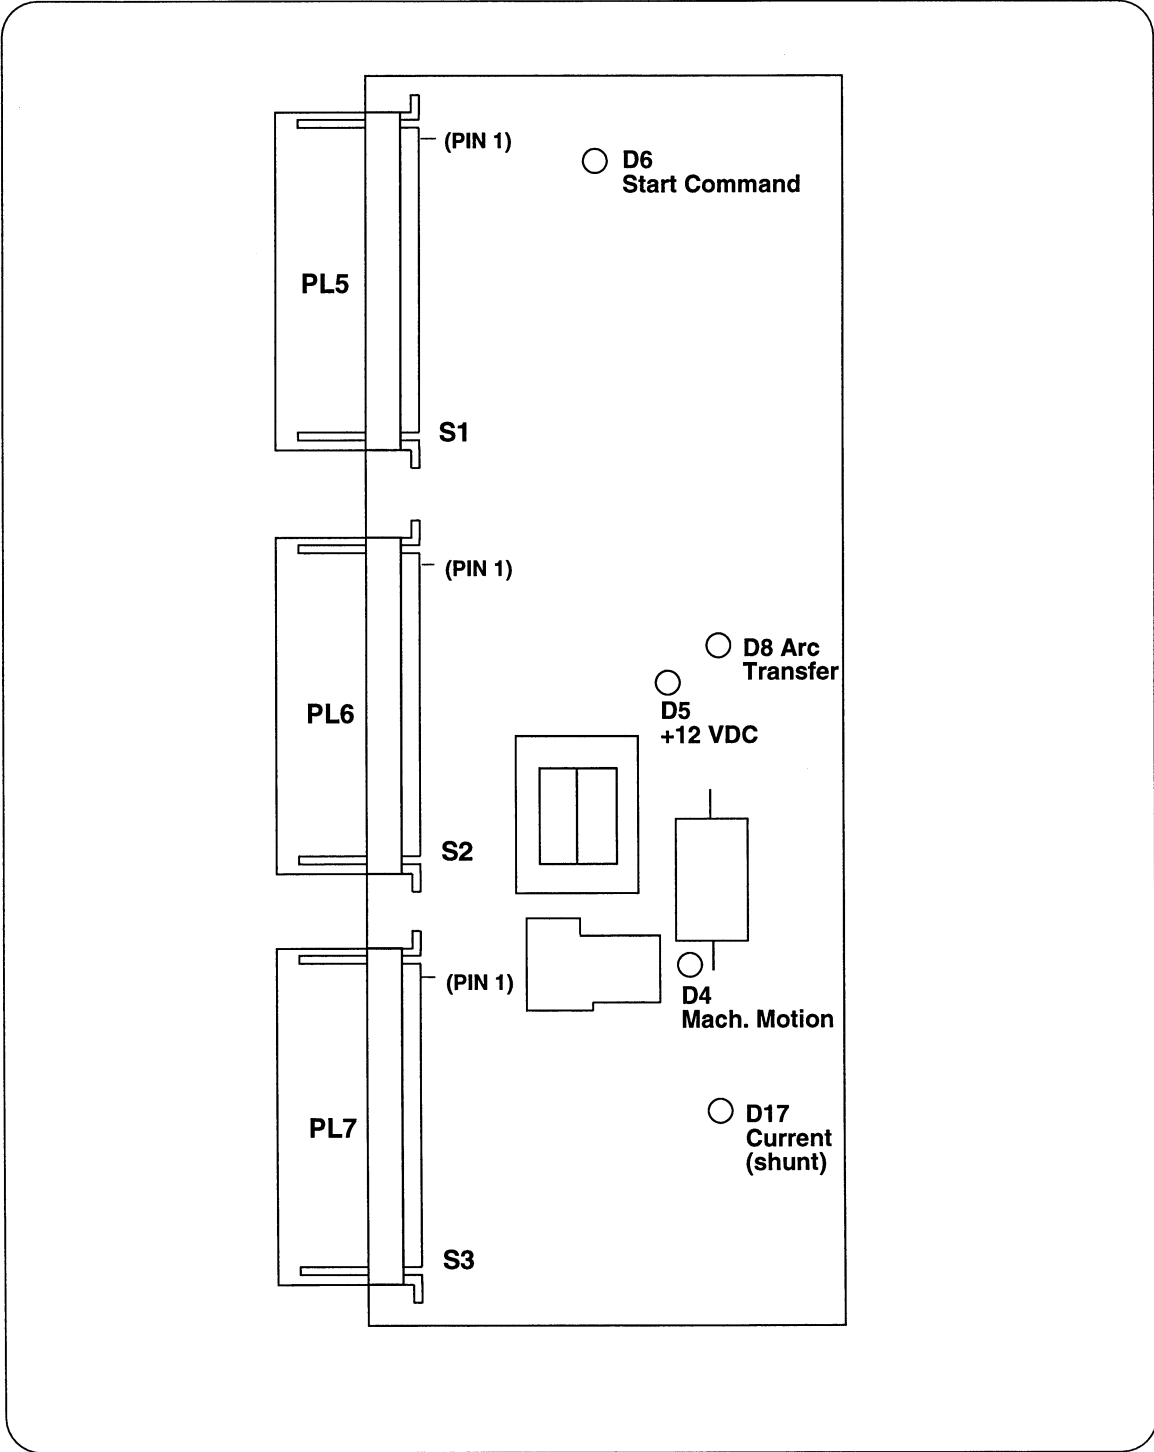

Figure 5-6 PCB4 Control Board
Check to see if D8 on Control Board PCB4 remains illuminated after torch moves away from plate. See Figure 5-6 for location of D8.
1. Observe D8 on PCB4 (see Figure 5-6) and see if it illuminates after main contactor closes (see sequence flowchart earlier in this section). If it does not illuminate, continue to next step. If it does illuminate, return to *Troubleshooting* section.